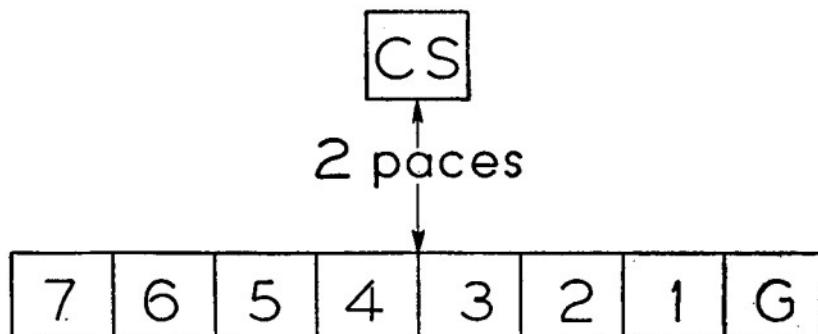

Figure 3. Formation of howitzer squad.
5. FORMATION. **a. Order of formation.** A howitzer squad is formed as shown in figure 3. Higher-numbered cannoneers, if present, form in order on the left of No. 7.